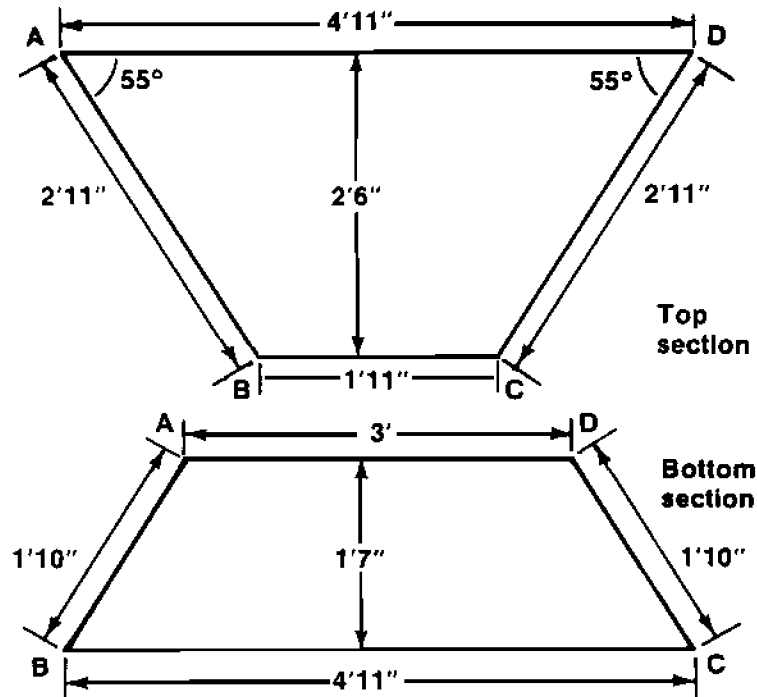

Figure 3. Insulation top and bottom sections
14. Cut a third section of insulation to fit under the top of the drum as shown in Figure 3. Dimensions are:
15. Cut a fourth section of insulation to fit under the base of the drum as shown in Figure 3. Dimensions are: